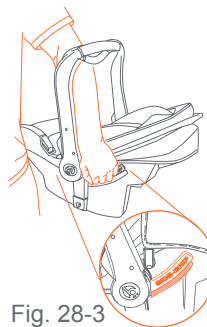

Fig. 28-3
- Rotate handle to the carry position. Cross forearm through the carry handle to place your hand on the grip (Fig. 28-3).